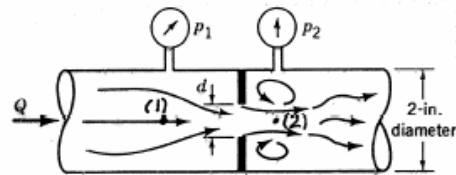

FIGURE P3.75
3.75 What diameter orifice hole, d , is needed if under ideal conditions the flowrate through the orifice meter of Fig. P3.75 is to be 30 gal/min of seawater with $p_1 - p_2 = 2.37 \text{ lb/in.}^2$? The contraction coefficient is assumed to be 0.63.